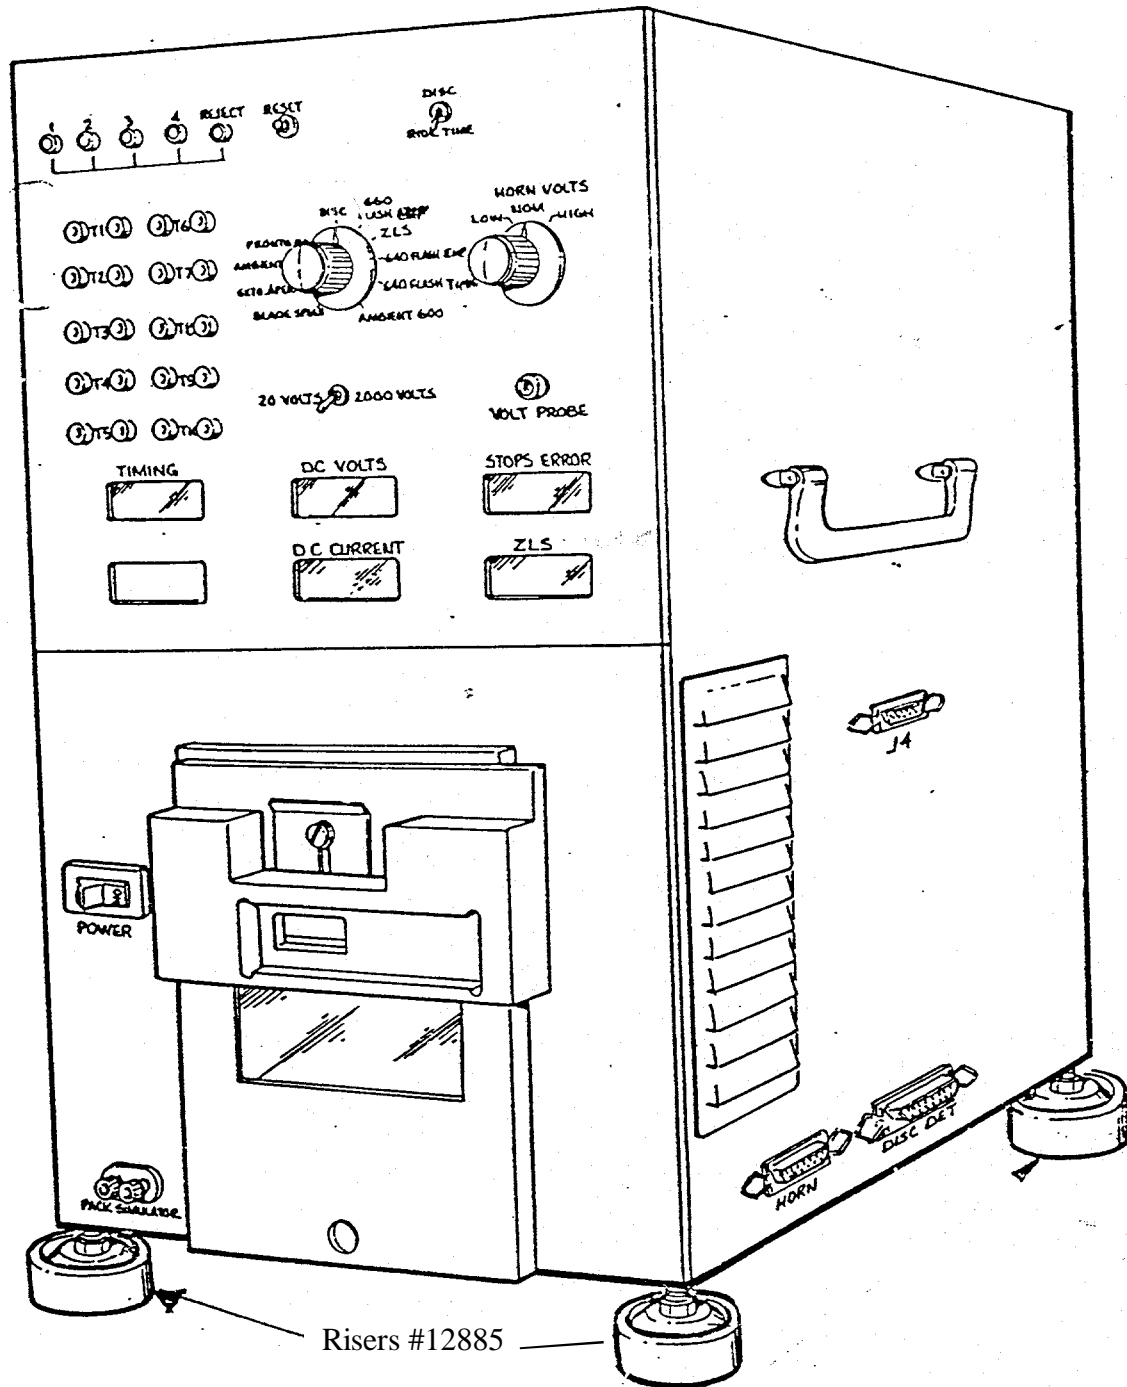

Fig. 4 Installing Risers under Tester's leveling legs
5. Remove the horn with mounted camera from the proximity of the tester. Carefully, tilt the tester and install two risers #12885 under the leveling legs. Tilt the other side of the tester and install two more risers under the two remaining leveling legs (Figure 4).